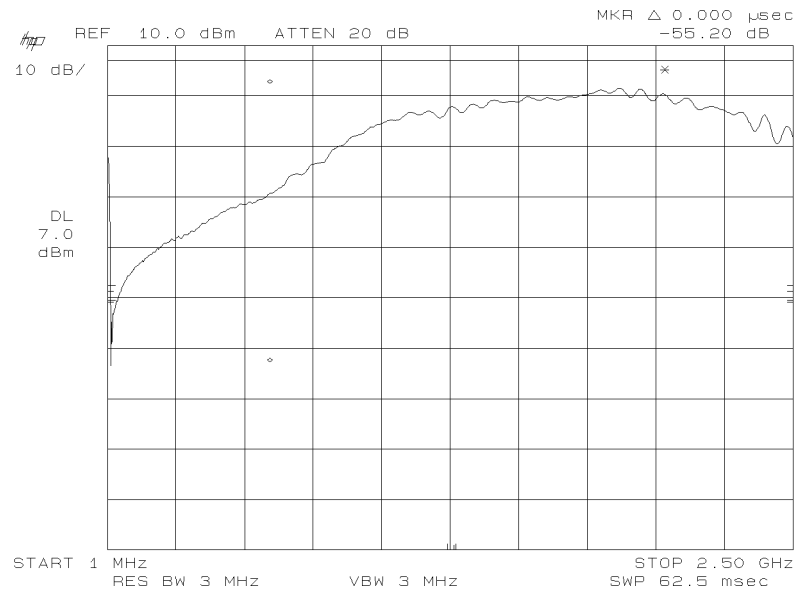

Figure 3-8. Calibrated LO Feedthrough Measurement Results
- View the calibrated LO feedthrough displayed in dB on the spectrum analyzer. Refer to Figure 3-8 for an example of the results.